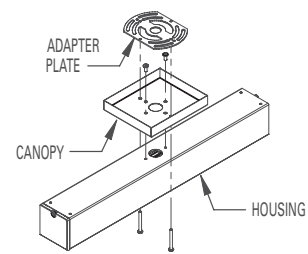

FIGURE 7
- For wall or ceiling mount, attach the canopy over the hole in the center of the housing using the screws used to hold the hanger bar brackets (See Figure 7).
Secure the canopy to the junction box using the adapter plate and screws provided (See Figure 7/8). The adapter plate is designed to be connected to a NEMA standard 3.5" round, 4" round, 3.5" octagon, 4" octagon, or handy (single gang) box. However, it is possible to connect the adapter plate to other electrical boxes with some modification.